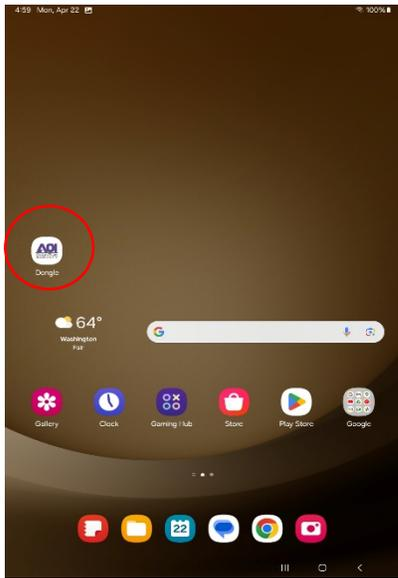

Figure A- 4: Home Screen
- Locate and Initiate QuantumLink Local Mobile Application on the Technician's portable device (Tablet/Handheld), see Figure A-4.